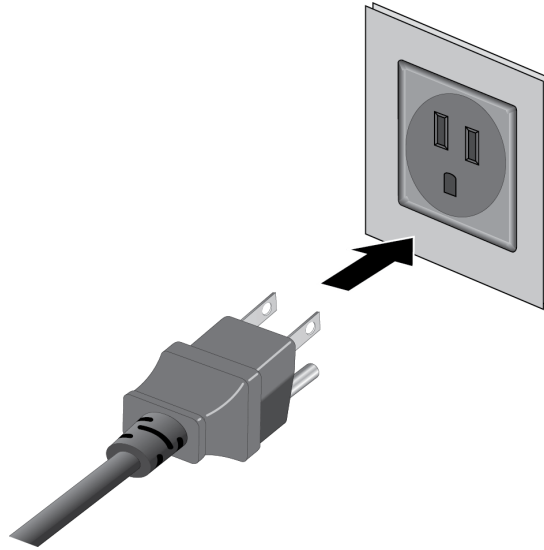

Figure 67. Connecting the Power Cords to an AC Power Source
5. Connect the power cords to an appropriate AC power source. Refer to Figure 67 on page 112.